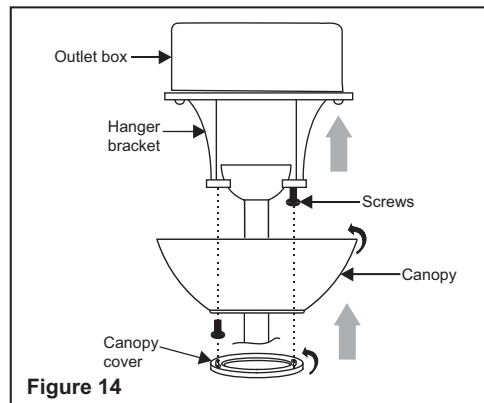

Figure 14
**Step 2.** Slide the canopy up to mounting bracket and place the key hole on the canopy over the screw on the mounting bracket, turn canopy until it locks in place at the narrow section of the key holes. (Fig. 14)